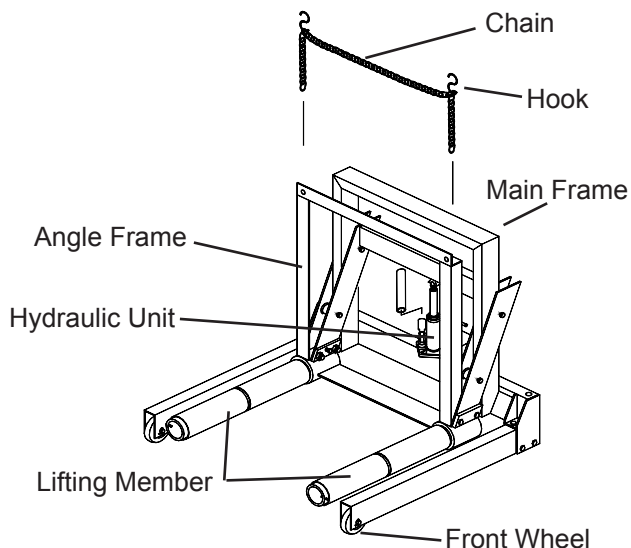

Figure 1 - 47050C Wheel Dolly Components
### 47050C Assembly (refer to Fig. 1 & 3)
1. Verify that the product and the application are compatible, if in doubt call Omega tech. service (888) 332-6419.
3. To familiarize yourself with basic operation; position the hydraulic unit upright as shown in Fig. 1 & 2, engage the release valve with the slotted portion of the provided handle, then turn the release valve: